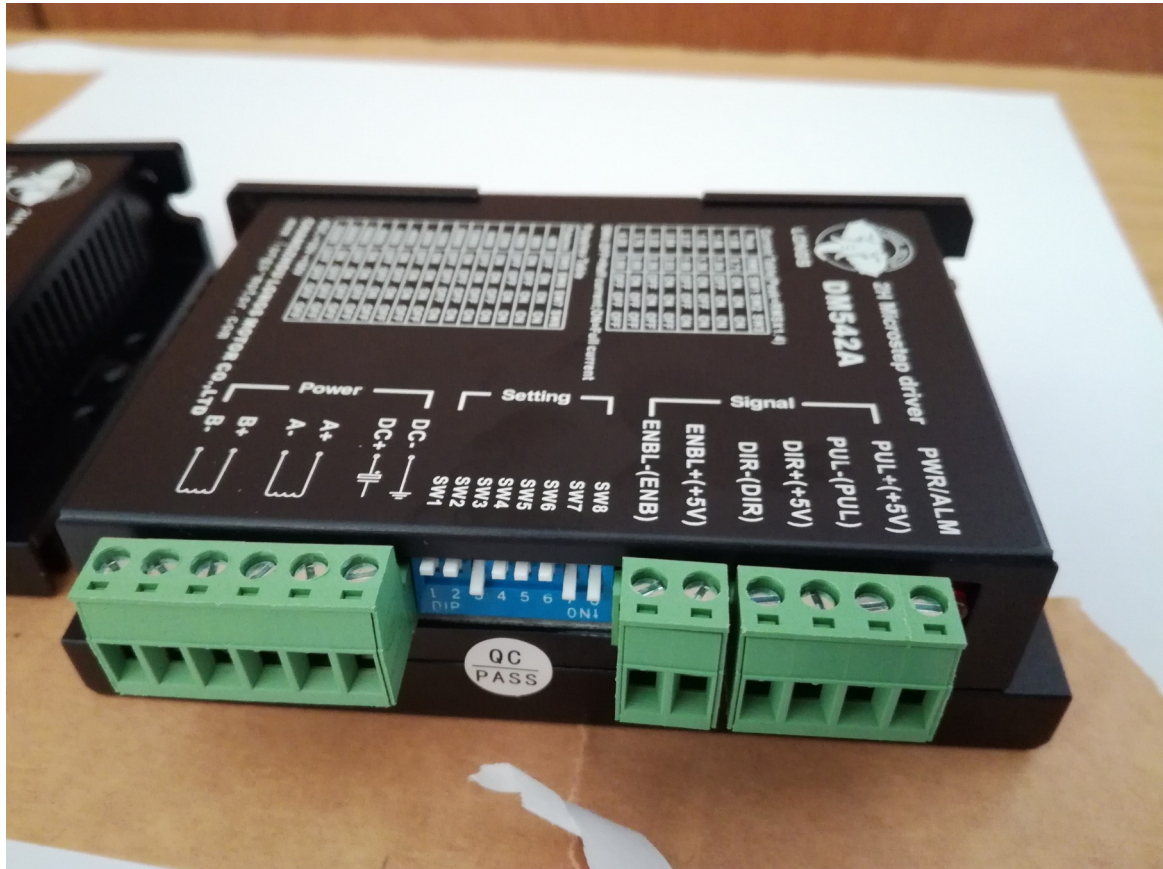

Figure 9 Pin setting of the stepper motor drivers.
3.3. Set the pins (SW1-SW8) of the stepper motor drivers to the desired configuration. These pins adjust the current output and step/revolution. Our configuration is displayed in Figure 9.